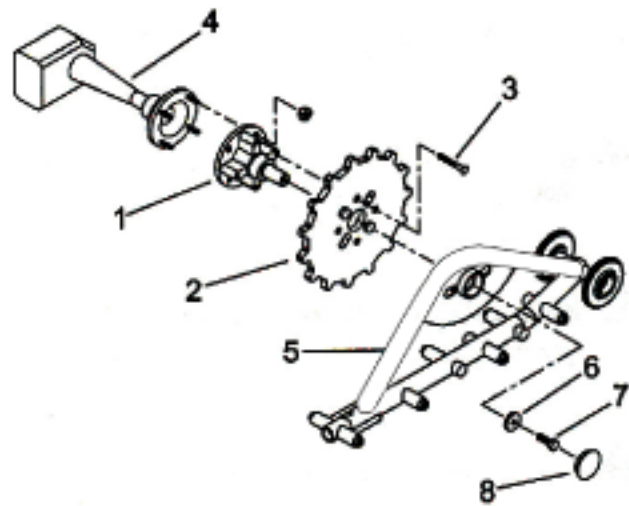

FIGURE 1
3. Install the assembled rear traction frames on to the ATV axle hub fig.1 #4, secured by the O.E.M. wheel nuts that applies to the most ATV models and tightened at the torque specified in the ATV owners manual. See annex A for specifications on using O.E.M. wheel nuts for other models.